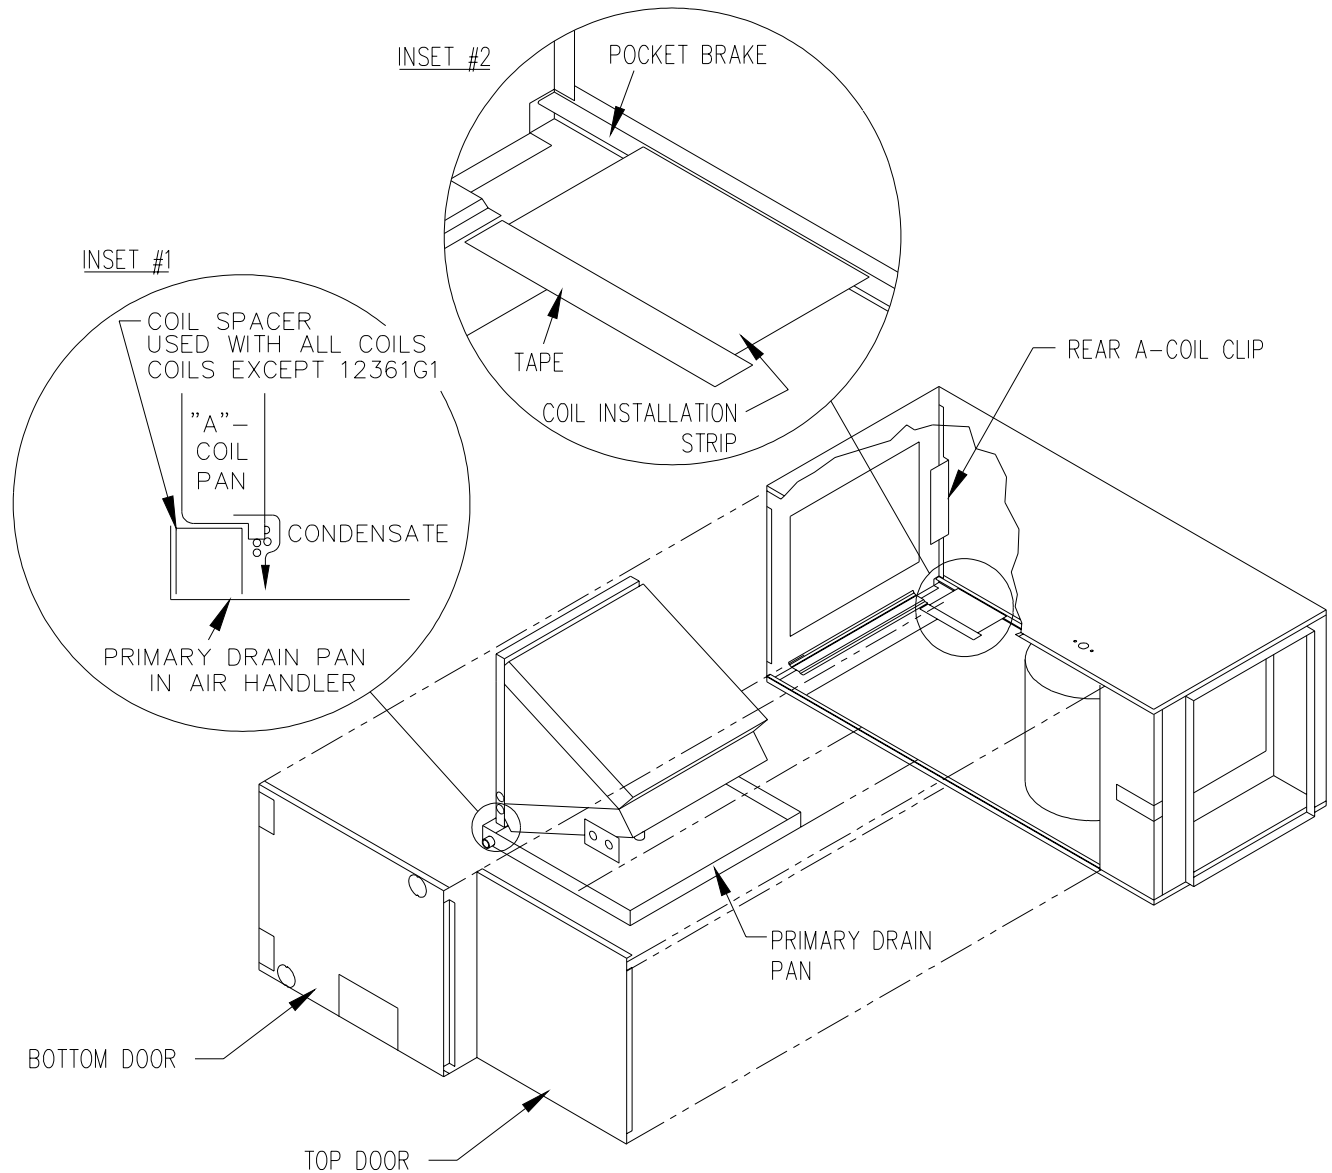

Figure B2
4. Set A-coil spacer in primary drain pan if needed. See Figure B2, #1 inset.
6. Secure coil installation strip with aluminum tape as indicated in Figure B2, inset #2. This makes a small ramp to slide the coil up and on the rear pocket brake.
7. Slide pan with coil into air handler making sure that the A-coil plastic pan is properly positioned in the primary drain pan. Insure the plastic coil pan on base of the A-coil slides into rear clip. See Figure B2.